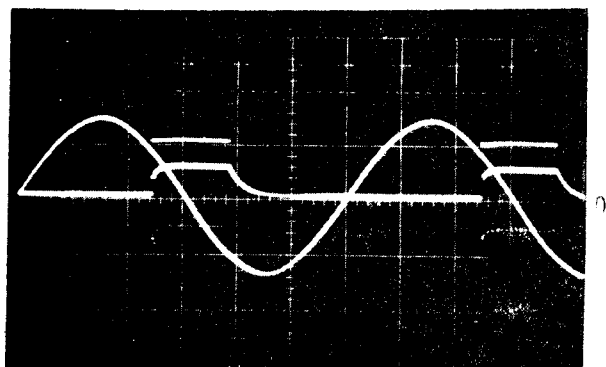

FIG. 4
1.3.5 Superimpose the two wave forms and compare to figure 4. Note that the delay angle is approximately 145° and the pulse train is approximately 85° long (start of first pulse to the end of the last pulse of the pulse train and does not include the exponential decay).
The trace should be the same as figure 4.
Compare to figure 4.